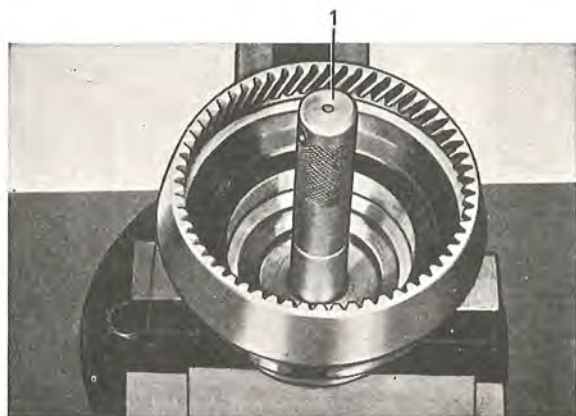

Fig. 4-49. Fitting the bush, output shaft
1. Push the bush on to the output shaft with drift SVO 2417, see Fig. 4-49. Press the front bearing to the output shaft with drift SVO 2412.